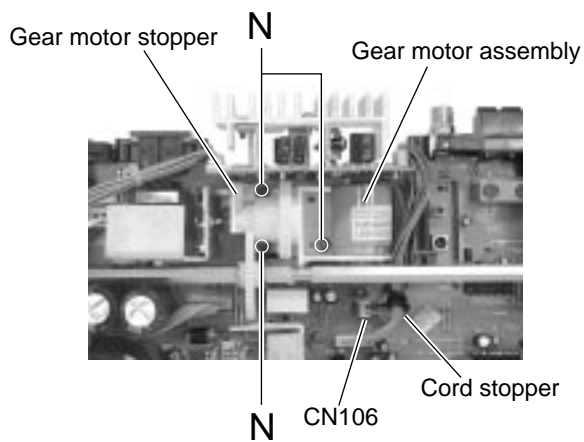

Fig.23
■ Removing the gear motor assembly (See Fig.23 and 24)